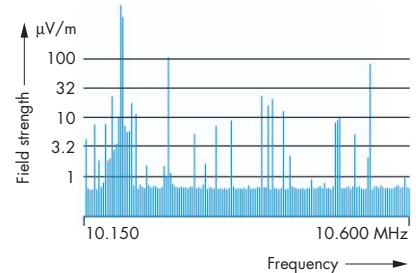

FIG 4 Results of occupancy measurement
**Occupancy** is measured across each ITU-defined HF frequency allocation at each measurement site [1]. The test receiver is stepped in frequency through each allocation, typically spending 1 s at each increment. The fraction of the increments for which the receiver IF output signal exceeds a defined threshold level defines the congestion value for that allocation. This procedure is shown in FIG 4, which indicates the measurement of congestion for the fixed and ground mobile frequency allocation 10.15 MHz to 10.60 MHz. Congestion values are measured for threshold